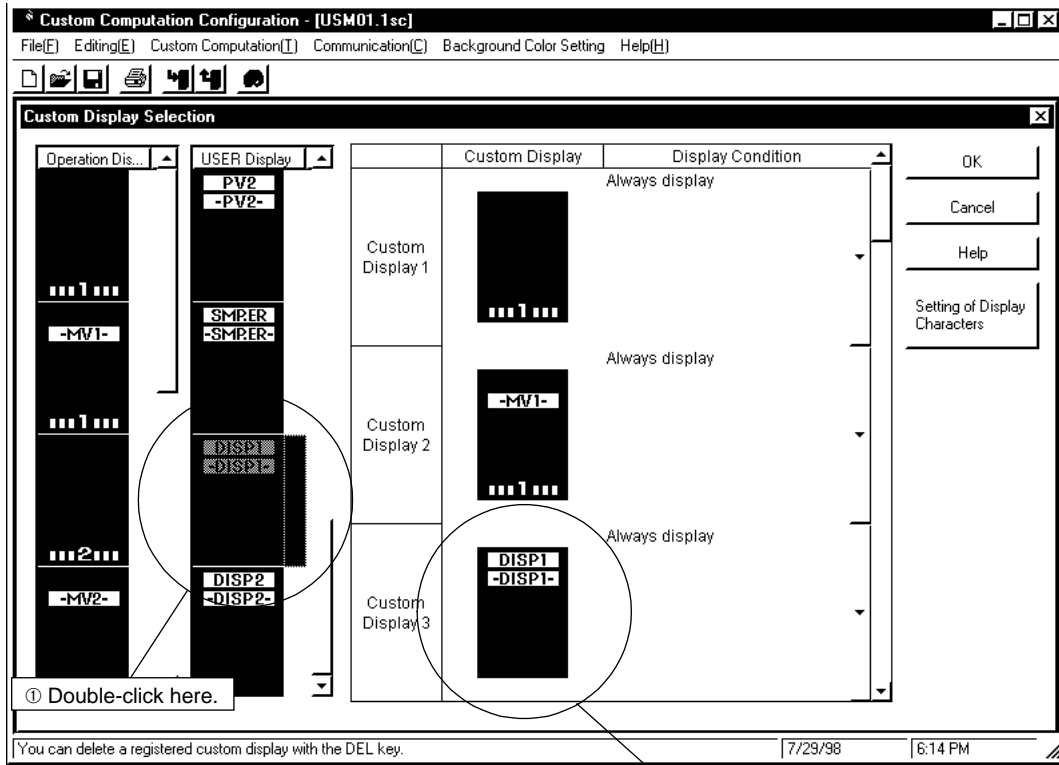

Figure 12.2.9 Registration of DISP1 Display
- ③ In the same dialog box, double-click <DISP1 Display> in the <USER Display> box, second from the leftmost box. <DISP1 Display> is registered with the Custom Display 3 section, as shown in Figure 12.2.9.
- ① Click the <Setting of Display Characters> button in the dialog box shown in Figure 12.2.9. The [Setting Character of DISP1, 2 Displays] dialog box (Figure 12.2.10) appears.